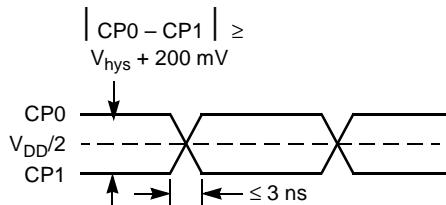

Figure 1. Receiver Input Waveform
8. Receiver input, $V_D = V_{CP0} - V_{CP1}$, at least 200 mV greater than hysteresis levels. See *Figure 1*.